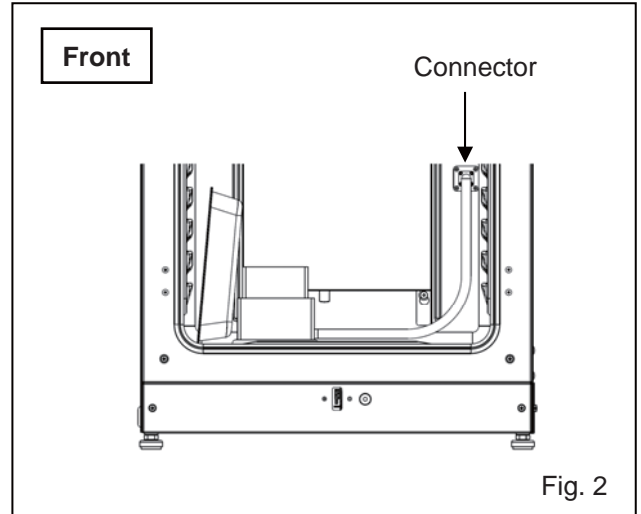

Fig. 2
7. Remove the connector cap from the connector on the bottom right of the far side of the chamber. Connect the H2O2 generator and connector by the cable provided (Fig. 2).